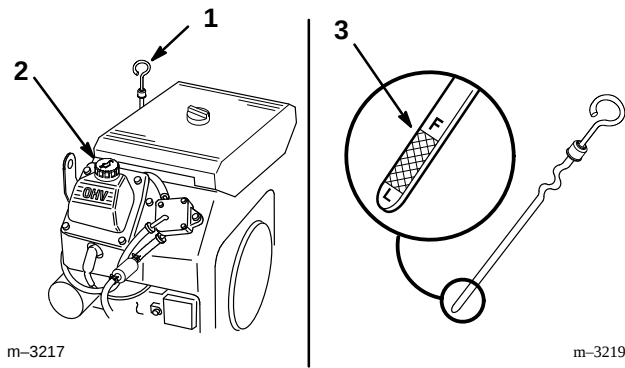

Figure 26
2. Clean around the oil dipstick (Fig. 26) so dirt cannot fall into the filler hole and damage the engine.
3. Pull the oil dipstick out and wipe the metal end clean (Fig. 26).
4. Slide the oil dipstick fully into the filler tube. Pull the dipstick out and look at the metal end (Fig. 26). If oil level is low, slowly pour only enough oil into the filler tube to raise the level to the "FULL" mark.
5. Slowly pour approximately 80% of the specified amount of oil specified, page 36, into the filler tube (Fig. 26). Now check the oil level; refer to Checking Oil Level, page 37. Slowly add additional oil to bring to "FULL" mark on dipstick.